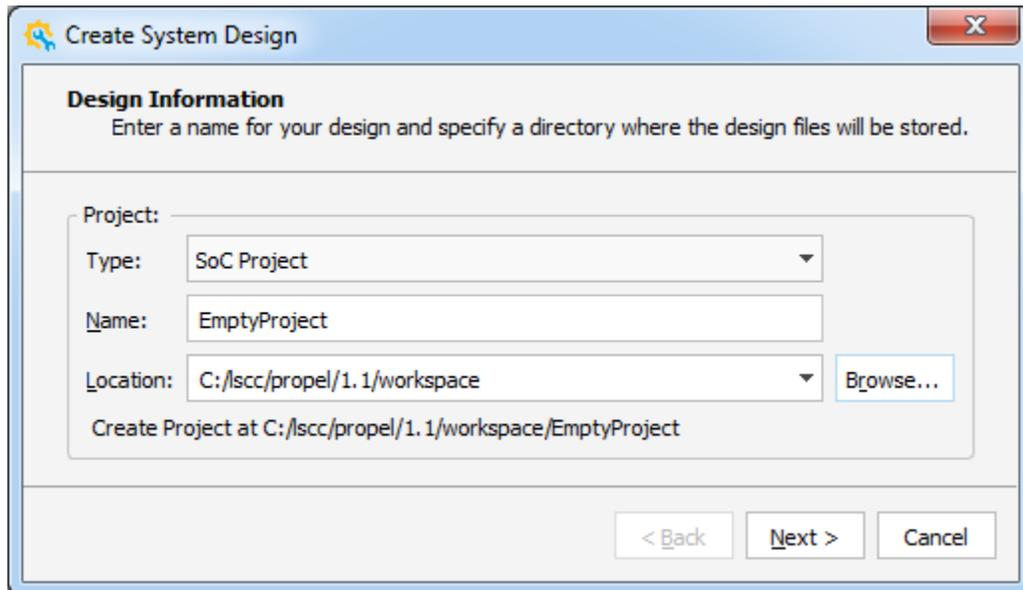

Figure 2.2. Create System Design – Design Information Wizard
1. Choose **File** >  **New Design** from the Lattice Propel Builder Menu bar. The “Create System Design” – Design Information wizard opens (Figure 2.2).